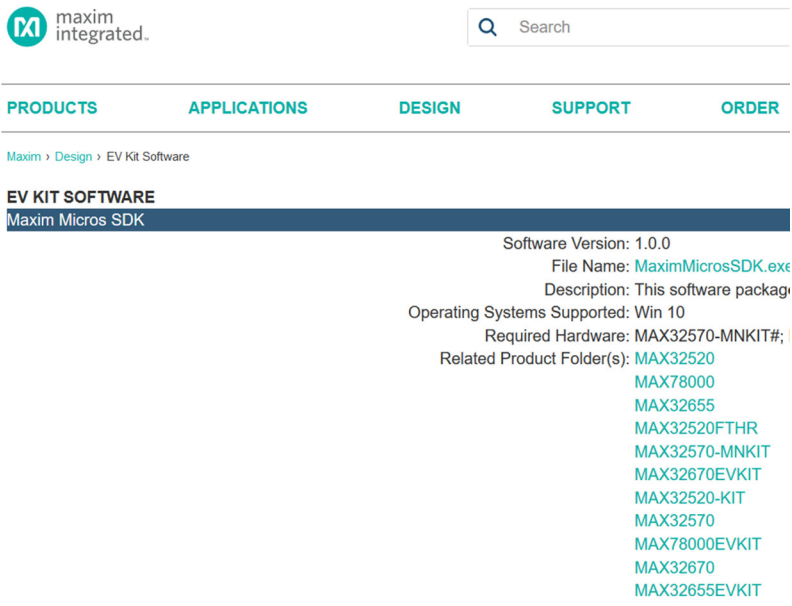

Figure 3.1 Click on MAX78000FTHR
- Click on **MaximMicrosSDK.exe** (Figure 3.1)